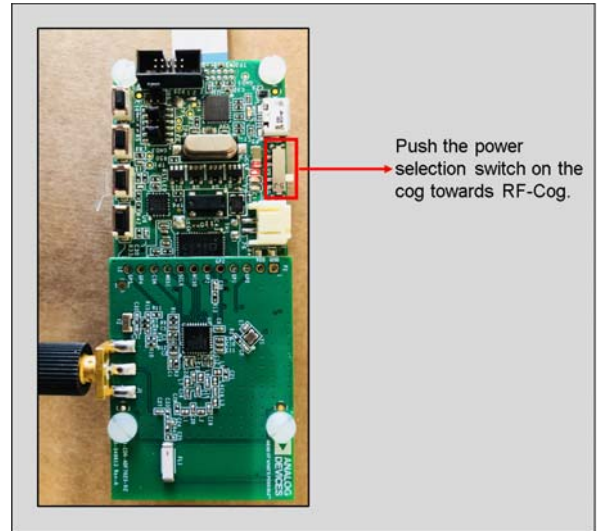

Figure 5. Toggling the Switch
2. Toggle the power selection switch towards **RF-Cog** as shown in Figure 5. The active LED (yellow) on the cog turns on until the node joins the network. The LED is turned off as soon as the node joins the network.